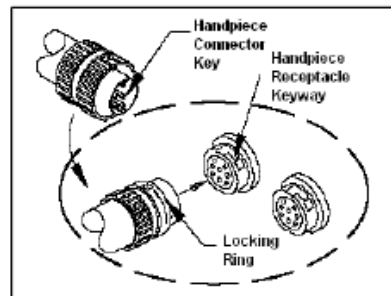

Figure 3a
6. Connect blue handpiece connector plug(s) to the blue power receptacle(s) CH 1, CH 2 and/or CH 3 in the following manner. See Fig. 3a.